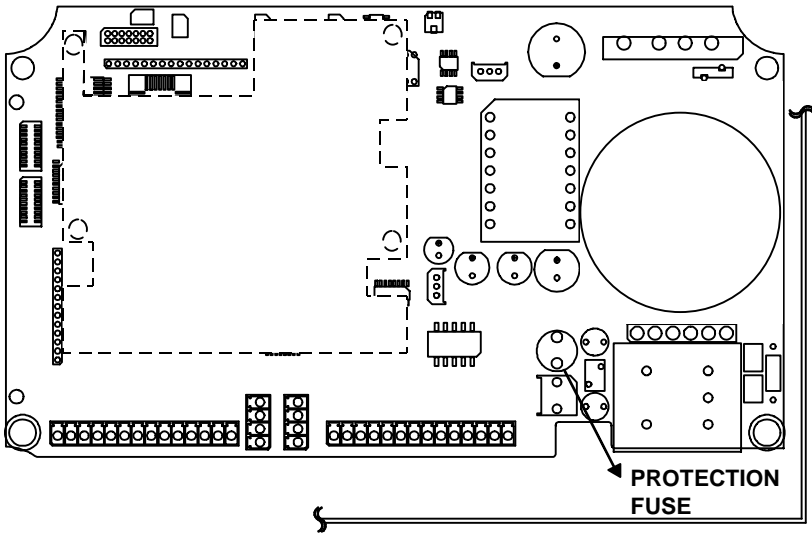

Figure 3.2 - Fuse position
- 3) Replace the fuse whose position is shown in figure 3.2. Make sure to use the correct value as specified in the protection fuse table below.